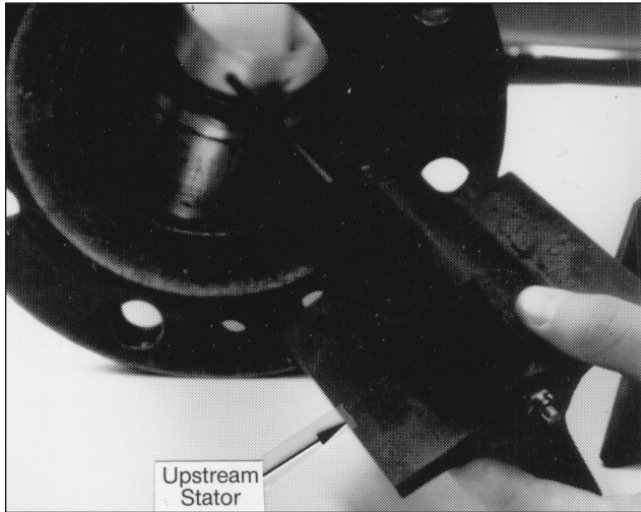

Figure 13
12. Remove upstream stator with shaft and inspect as described in Step 9. On most unidirectional models, holes are in nut end of stator (Figure 13).